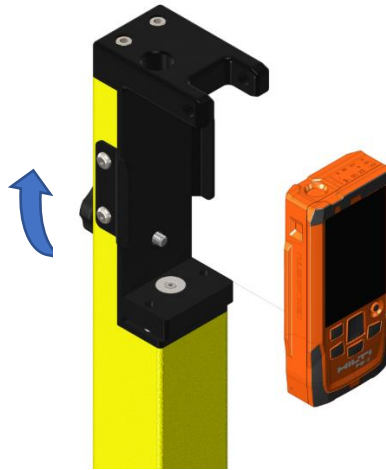

Figure 3
2. Place the laser unit into the holder at the top of the vertical beam and fix in place by turning the locking knob (See Figure 3).